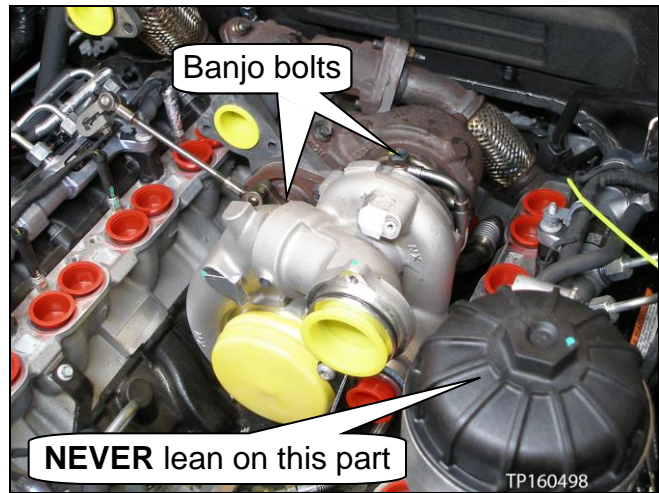

Figure 60
5. Position the new high pressure turbocharger on the low pressure turbocharger (see Figure 60).
**CAUTION:** Do not lean on the stage 2 fuel filter assembly at any time while it is unbolted (see Figure 60).
- The “low pressure” banjo bolt cannot be seen in Figure 60 or 61.